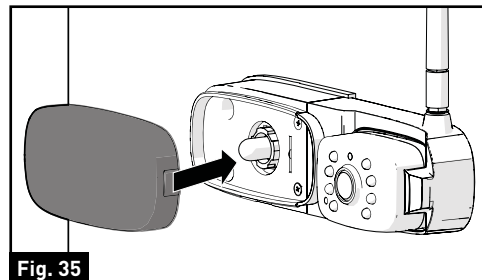
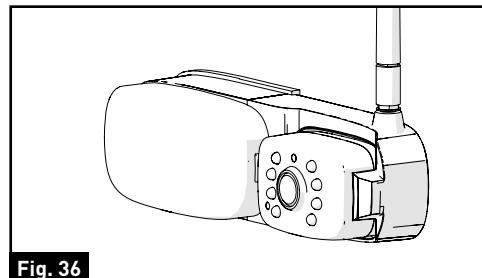

Fig. 35
Fig. 36
7. Replace the lens cover over the traffic light base and press until you hear a "click". The camera is fully installed onto the vehicle. (Fig. 35 and Fig. 36)